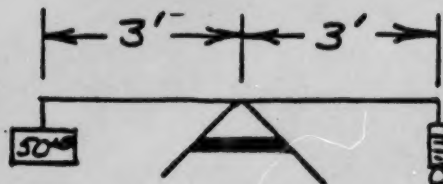

FIG: 1
- A. Place lever so that it rests on the horse at the central point of the lever. Hang 50 lb. weight on one end. Attach spring balance to other end of the lever and pull down with sufficient force to raise the weight from the floor (Figure 1). In your data table record 1. Reading of spring balance, 2. Weight, 3. Distance weight moved, 4. Distance force moved, 5. Length of weight arm of lever, 6. Length of force arm, 7. Mechanical Advantage.